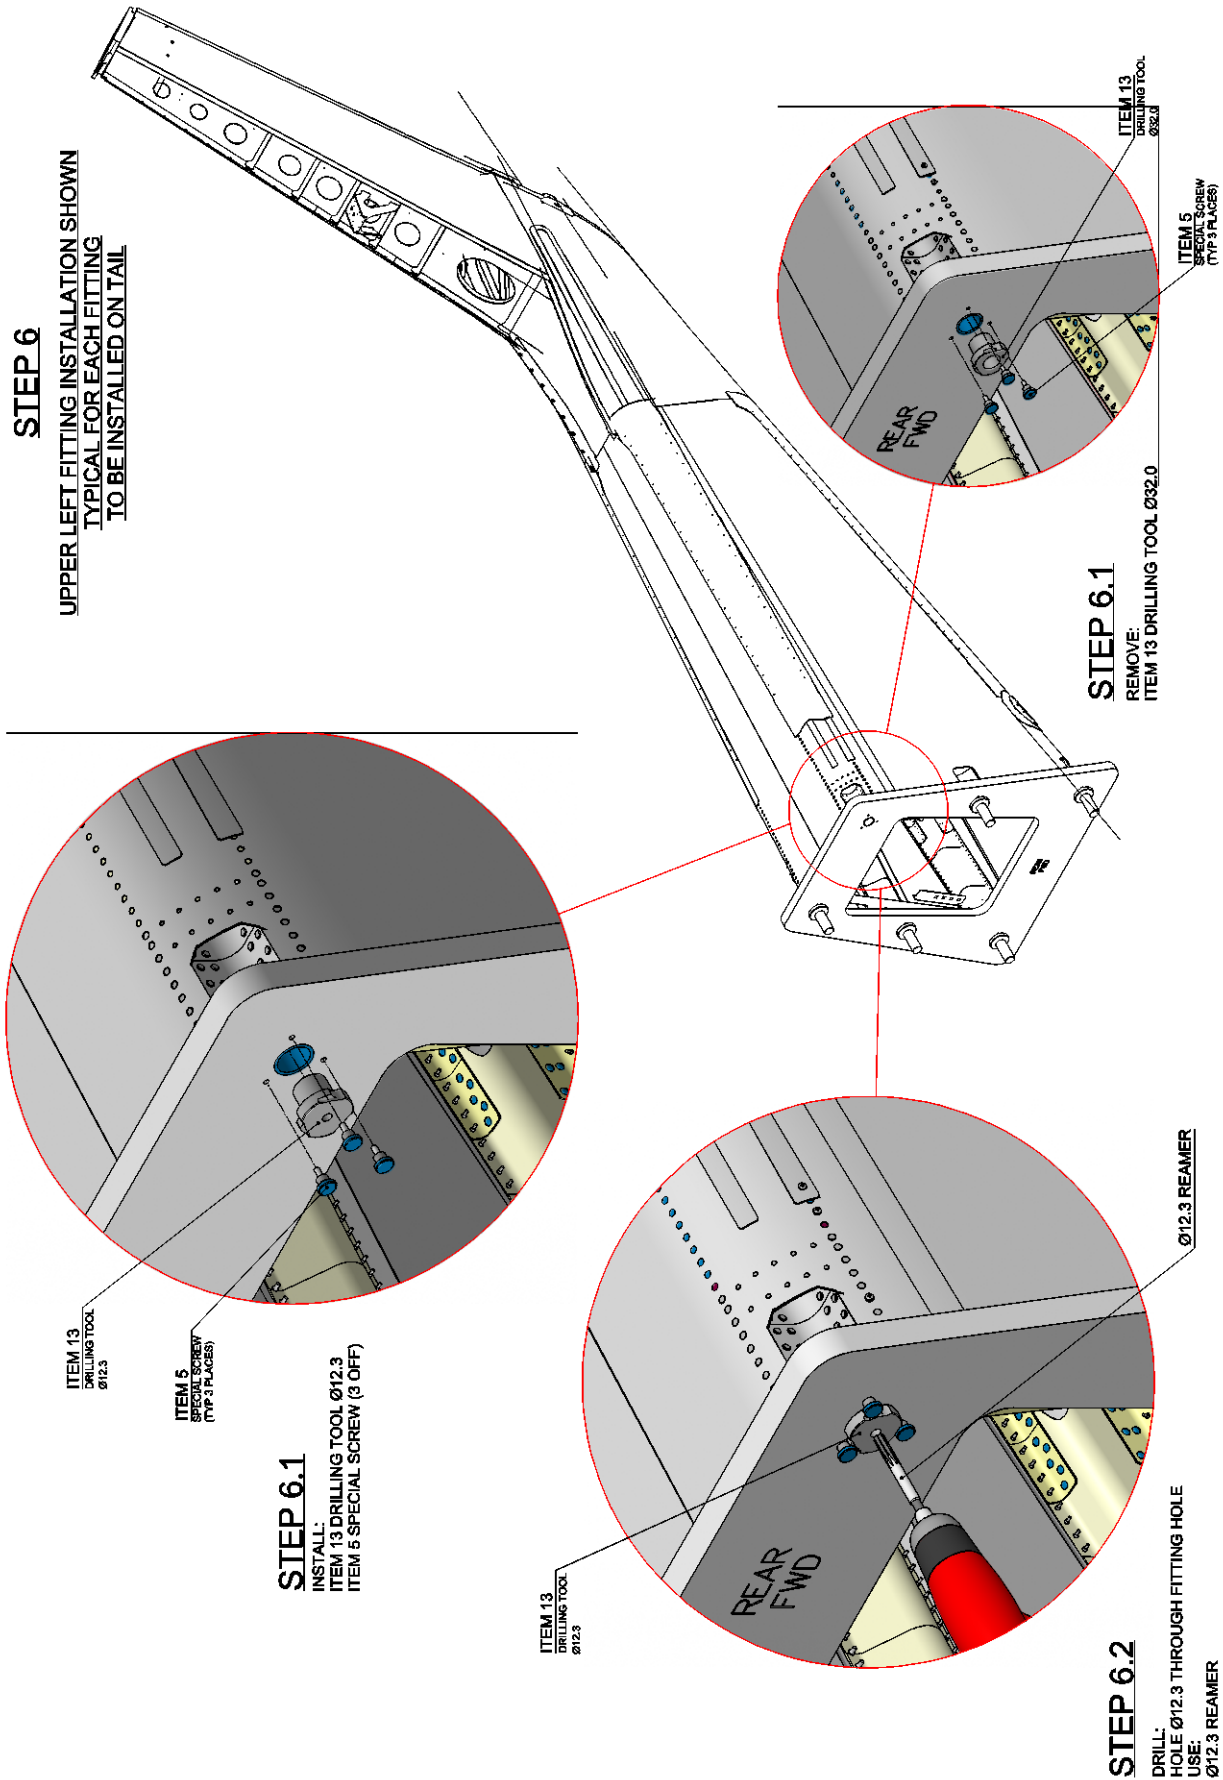

Figure A7
10. With reference to Figure A7, remove the drilling tool  $\varnothing 32.0$  (ITEM 13) and install the drilling tool  $\varnothing 12.3$  (ITEM 13) by means of n°3 special screws (ITEM 5); ream the fitting hole to  $\varnothing 12.3$  by means of reamer  $\varnothing 12.3$ .
11. With reference to Figure A7, remove the drilling tool  $\varnothing 12.3$  (ITEM 13) and the n°3 special screws (ITEM 5).